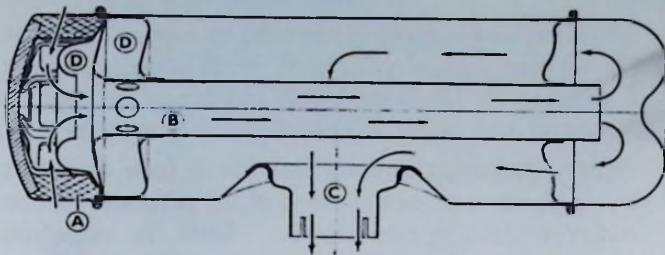

Fig. 1. Direction of Air through Cleaner.
Description : Air entering the carburettor passes through the oil-wetted woven mesh (A), the air tube (B) and the central tube (C) and the resonance chamber (D). See Fig. 1.